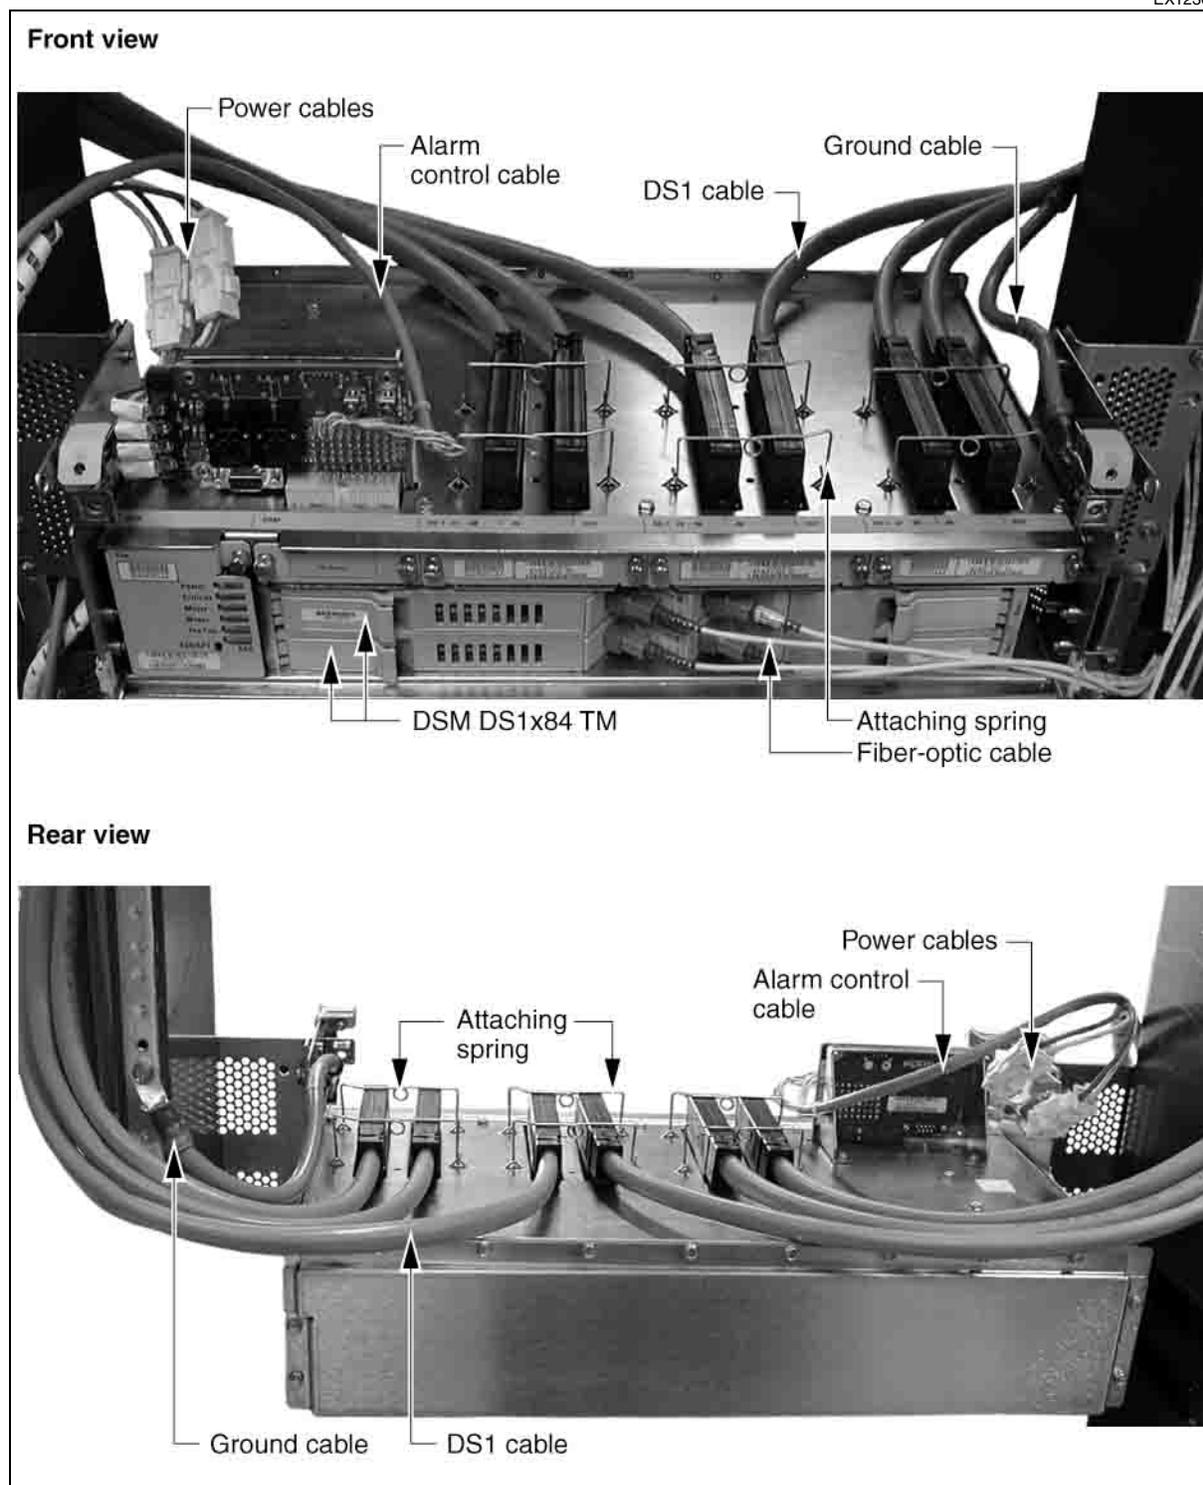
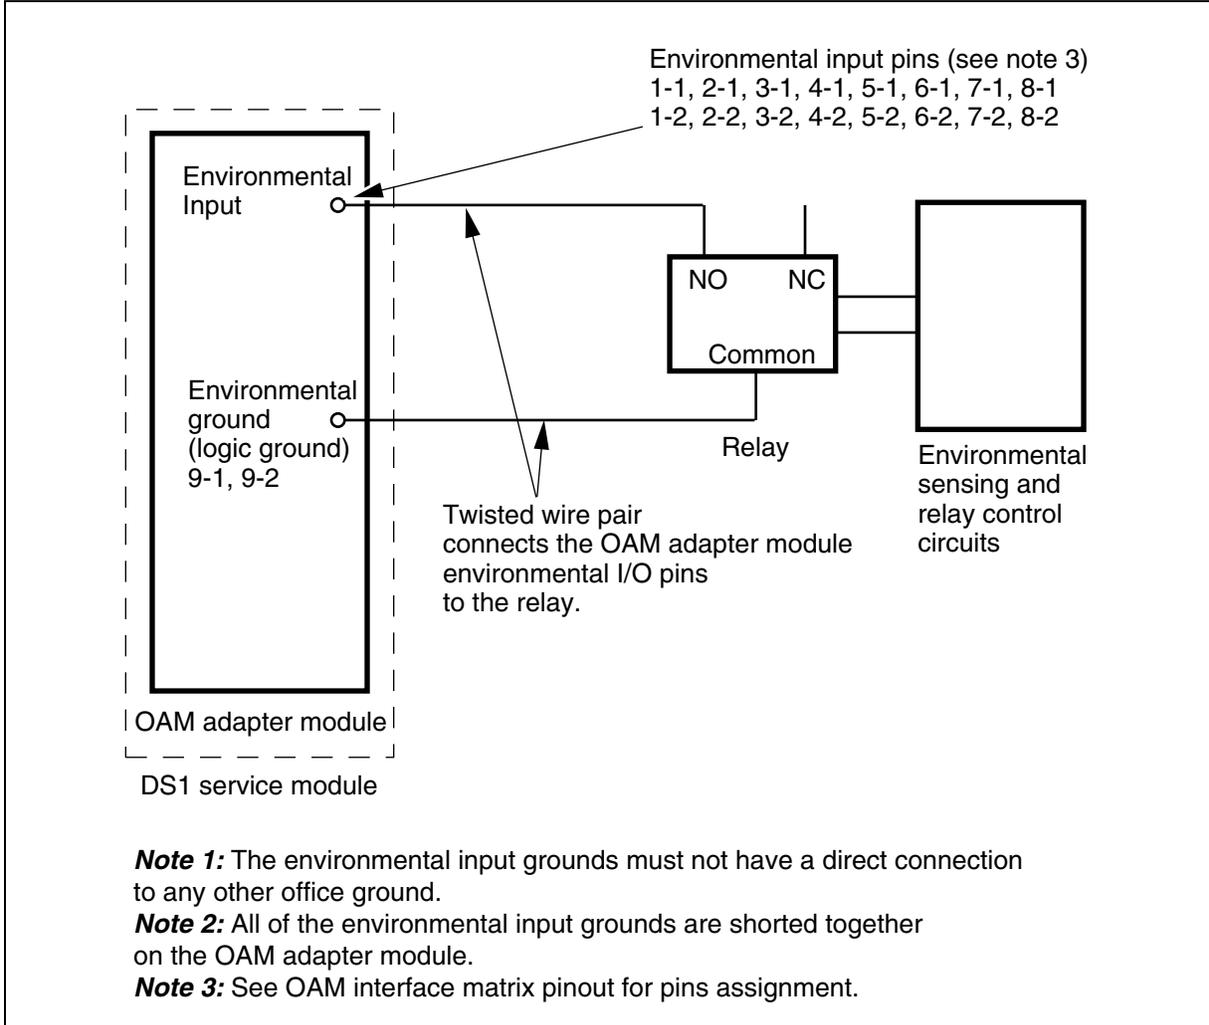
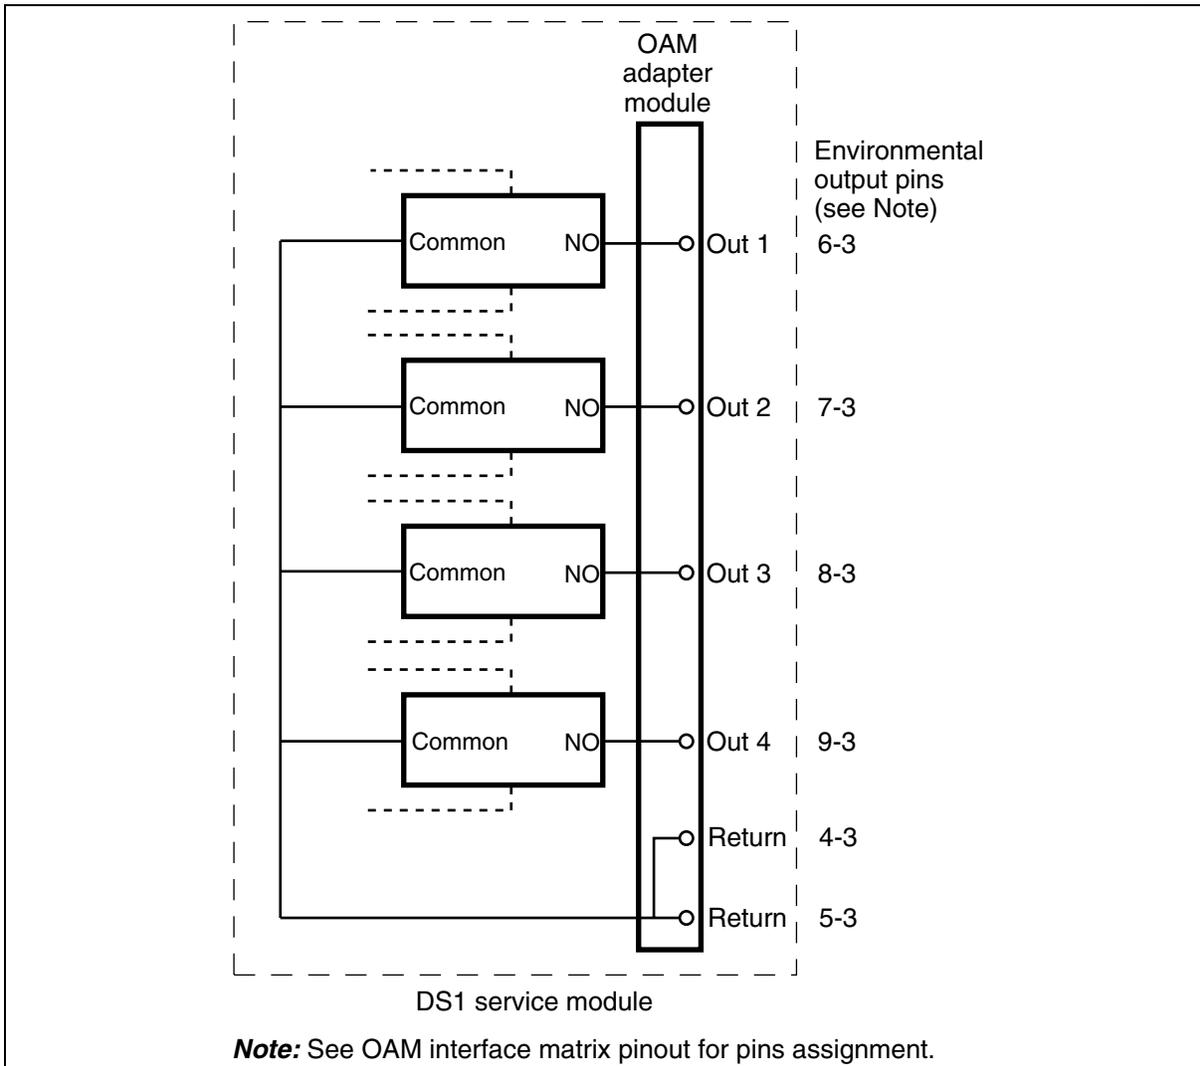

Figure 3-125
Figure 3-126
Figure 3-127
1	<p>Verify the compatibility of DS1 service module alarm and environmental I/O interfaces.</p> <p>See:</p> <ul style="list-style-type: none">• Figure 3-125 on page 3-237 for environmental inputs• Figure 3-126 on page 3-238 for environmental outputs• Figure 3-127 on page 3-239 for alarm relays <p>Note 1: Figure 3-125 on page 3-237 is an example of a circuit of environmental input connections using a relay interface. Environmental inputs are active low. To drive one of the inputs low, the control circuit must short it to one of the Environmental ground pins. You can use one ground pin for up to three inputs.</p> <p>Note 2: Figure 3-126 on page 3-238 is an example of a circuit of environmental output connections. Each environmental output pin, connects to a normally open (NO) relay contact on the LOAM. Connect the common contacts on the output relays to the common return (RET) pins.</p>
Note 3: Figure 3-127 on page 3-239 is an example circuit of shelf alarm relays. The OAM alarm pins connect to relays under the control of the shelf processor. When the shelf processor activates an alarm relay, the normally open line connects to the common line and the normally closed (NC) line disconnects from the common line. The NC, NO, and common lines for each shelf alarm relay are isolated from each other, the shelf ground, and the shelf battery return.